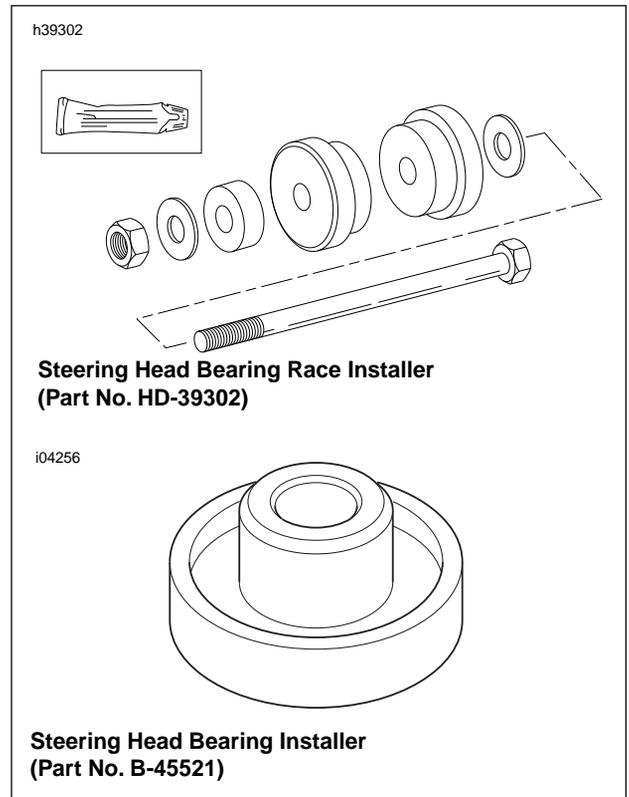

Figure 2-77. Steering Head Bearings Installation Tools
1. See Figure 2-77. Install **new** upper and lower steering head bearings into the steering stem using STEERING HEAD BEARING RACE INSTALLER (Part No. HD-39302), and the STEERING HEAD BEARING INSTALLER (Part No. B-45521).
- b. See Figure 2-77. Insert the steering head bearing installation tool into the upper bearing, with the shoulder into the bearing bore.